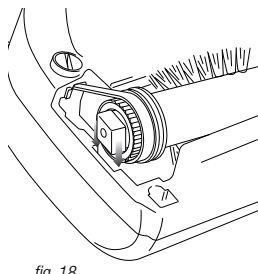

fig. 18
- Align the white square on the belt side and position into its slot. (fig. 18)